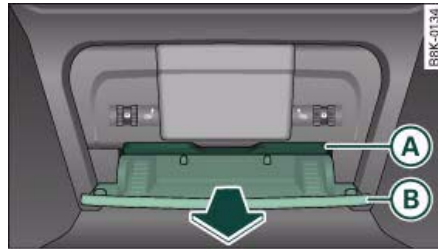

Fig. 99 Rear centre console: Ashtray
- Pull the front lip of the ashtray (B) ⇒ fig. 99 in the direction of the arrow.